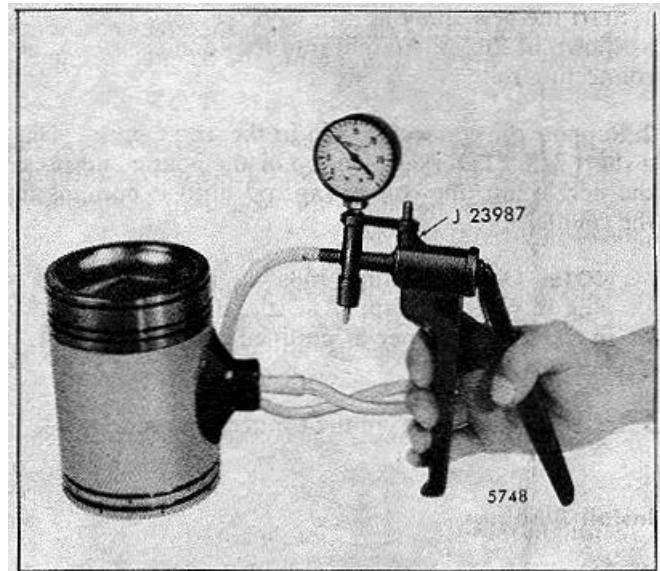

FIG. 13 - Checking Piston Pin Retainer for Proper Sealing
6. One important function of the piston pin retainer is to prevent the oil, which cools the underside of the piston and lubricates the piston pin bushings, from reaching the cylinder walls. Check each retainer for proper sealing with leak detector J 23987 (Fig. 13). Place the suction cup over the retainer and hand operate the lever to pull a vacuum of ten inches on the gage, a drop in the gage reading indicates air leakage at the retainer.